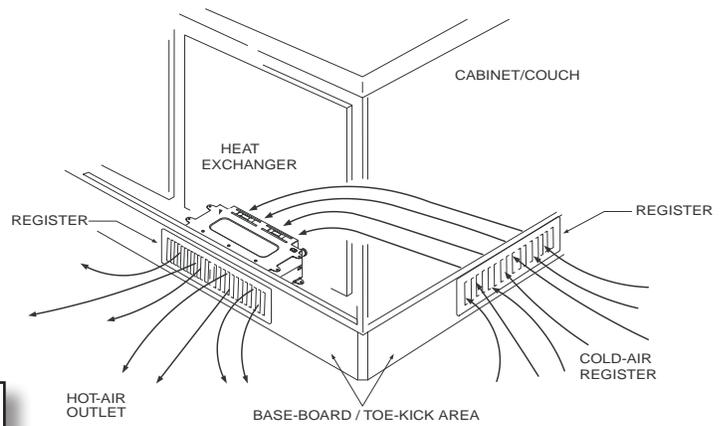

Figure 15
1. Cut out a 2.5 inch H x 10 inch W opening for each heat exchanger outlet and cold-air return register. Reference Figure 15.